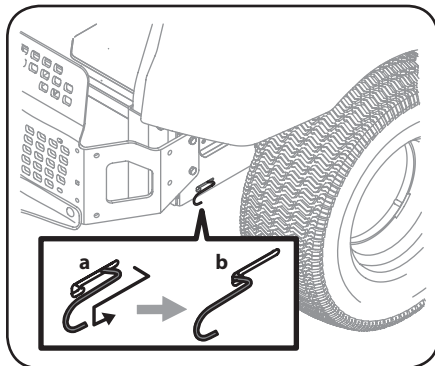

Figure 2-1
- Engage the transmission bypass rods, one on each side of the tractor, to move the tractor manually without starting it. The transmission bypass rods are located on the rear of the tractor, just inside each rear wheel. Place the lapbars in the neutral (fully inward) position to disengage the parking brake. Engage the bypass rods by pulling each one back (a) and hooking it into the slot (b) to lock it into place. See Figure 2-1.
- Disengage the bypass rods by reversing steps a & b after moving the tractor. See Figure 2-1.